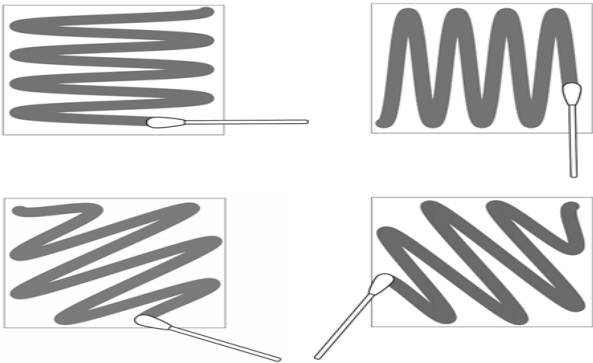

Figure 1.
3. Gather the sample with the swab by using a crosshatch technique (**Figure 1.**). Move the swab horizontally, vertically, diagonally while rotating the tip. Repeat this starting from a different angle each time.